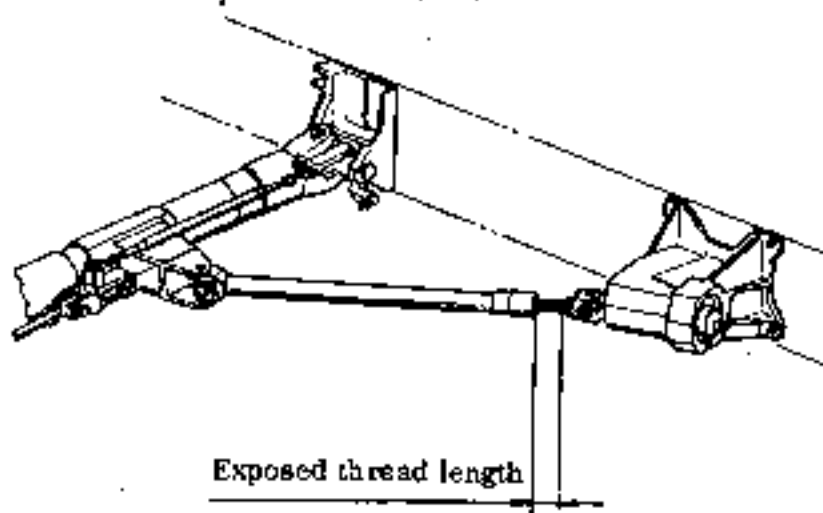

Fig. 4-42 Main gear jack screw
- (a) Exposed thread length of main gear jack screw (see Fig 4-42).